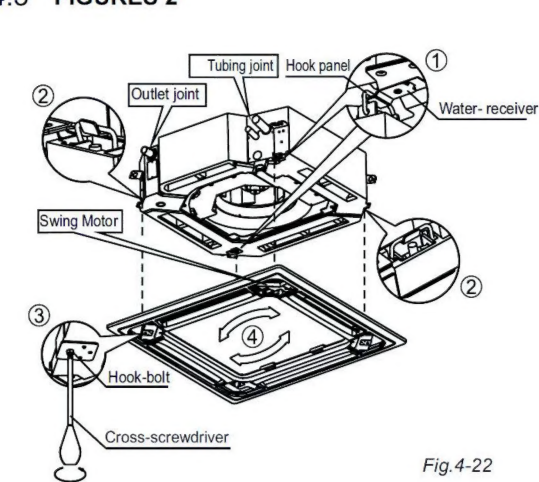

Fig.4-22
- Align the swing motor on the panel to the tubing joints of the body properly. (Refer to Fig.4-22)